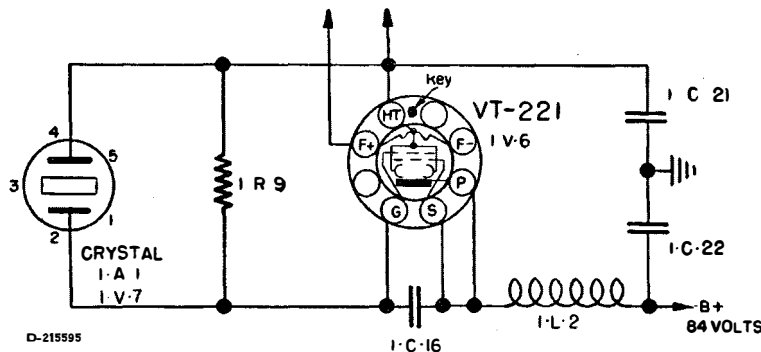

FIG. 19. CRYSTAL OSCILLATOR CIRCUIT
- e. *Crystal Oscillator Circuit:*— (FIG. 19)